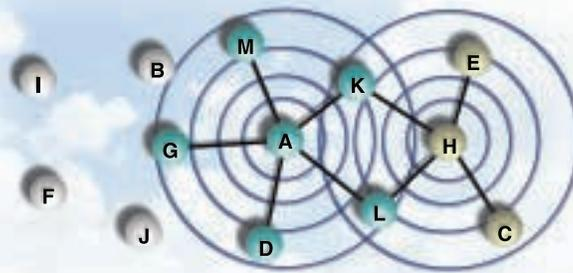

Figure 3 - Two Bluetooth piconets participating in a scatternet
When multiple piconets are interconnected, they create wireless networks called scatternets. Figure 3 illustrates a piconet made of nodes A, K, L, M, and G interacting with yet another piconet comprised of nodes H, E, C, K, and L. These two piconets share nodes K and L, and collectively, form a scatternet.
- **Master** – In control of a piconet (nodes A and H in Figure 3)
Paging is how a Bluetooth device learns about other devices that are within its range. Node A in Figure 3 executes a page command and receives replies from devices within range. Through these replies, device A learns the explicit identity of these other devices (such as their unique Bluetooth device ID).
In its general form, a page command establishes a formal device-to-device link between a master (the originator) and a slave. Master/slave connections in Bluetooth are referred to as a piconet. To create the piconet, Device A broadcasts the page command with the explicit device ID of the target slave (Device D in Figure 3). All Bluetooth devices except Device D will ignore this command, because it is not addressed to them. When the Device D replies, Device A will assign it an Active Member Address in the piconet. As an active slave, Device D will begin continuously monitoring for further commands from Device A, in synchronization with Device A's hopping pattern and clock offset. Furthermore, standard piconet activity continuously updates the clock-offset data, keeping the synchronization extremely accurate. Through successive page commands, a Bluetooth master can attach up to seven active slaves.
Each Bluetooth node is capable of maintaining multiple states simultaneously. This allows multiple piconets to combine into a structure called a scatternet. In Figure 3, two piconets combine into a scatternet through the common slaves K and L. Scatternets can evolve into extremely complex structures. Note that a node can potentially be a master, an active slave, and a "parked" slave on three different piconets, all at the same time.